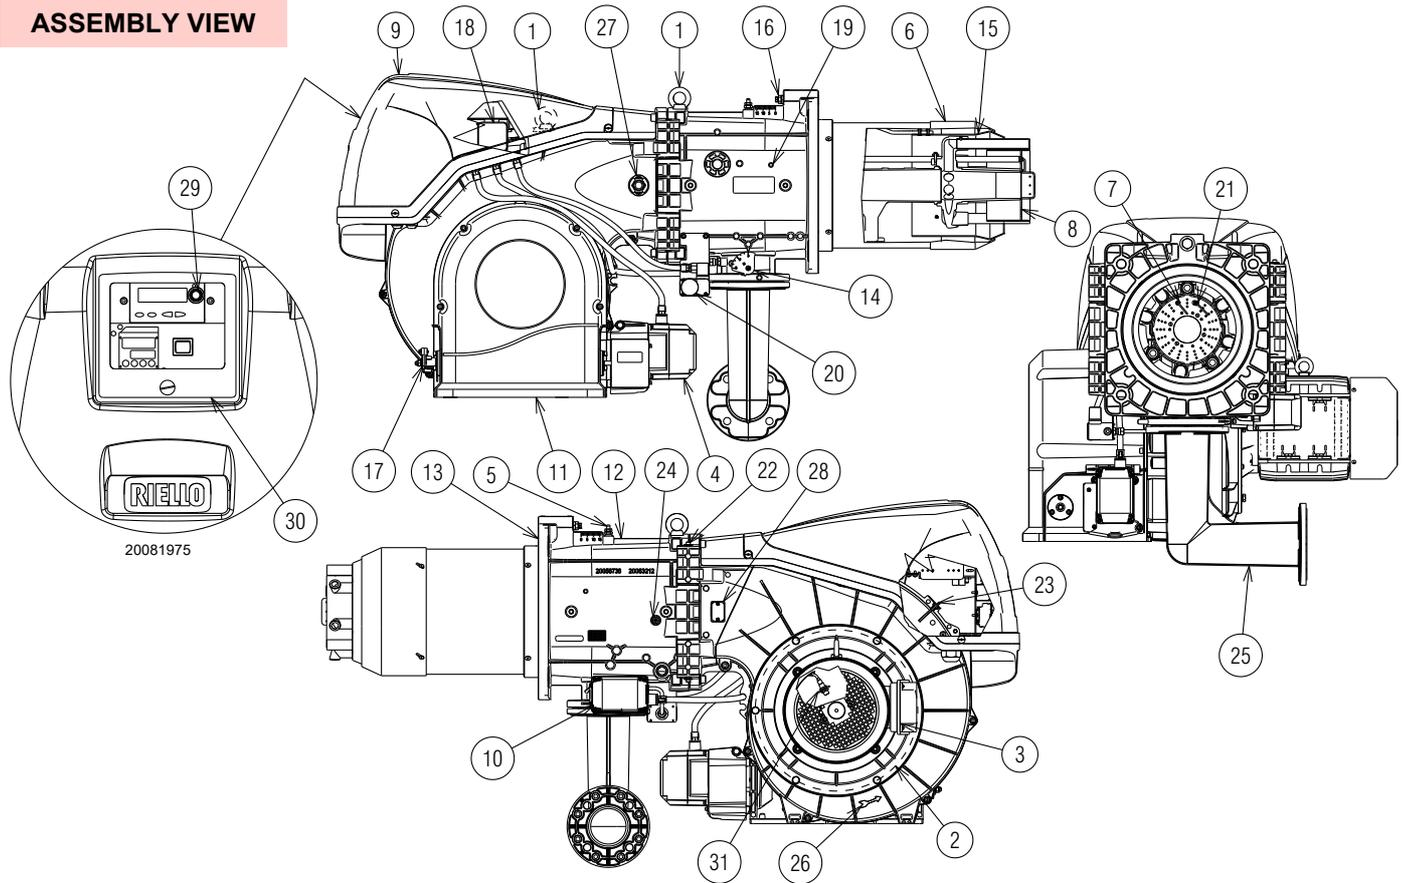

Fig. 5
(1) Reference conditions: Ambient temperature 20°C - Gas temperature 15°C - Barometric pressure 1013 mbar - Altitude 0 m a.s.l.
(2) Pressure at the test point of the pressure switch 5)(Fig. 5 on page 13) with zero pressure in the combustion chamber and at maximum burner output.
(3) Sound pressure measured in manufacturer's combustion laboratory, with burner operating on test boiler and at maximum rated output. The sound power is measured with the "Free Field" method, as per EN 15036, and according to an "Accuracy: Category 3" measuring accuracy, as set out in EN ISO 3746.